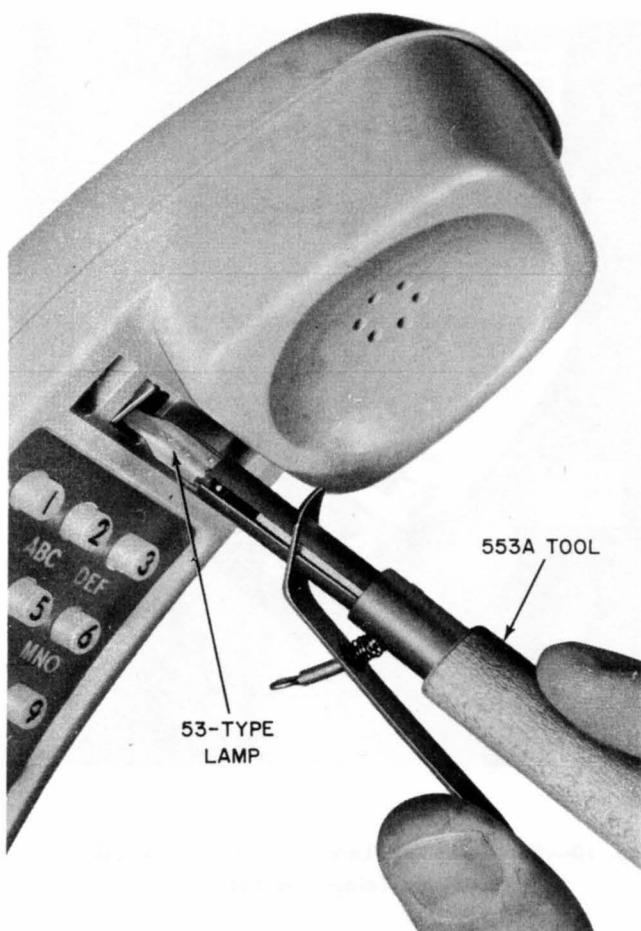

Fig. 11—Replacing Dial Lamp in Early Production 1220-Type Hand Telephone Set
5.05 To replace a dial lamp in the TRIMLINE hand telephone set, remove cover or number card retainer and light-seal plate. Current production hand telephone sets have the lamp in a horizontal position and a KS-6320 orange stick can be used to remove the lamp (Fig. 10). **EXERCISE CAUTION TO PREVENT THE LAMP FROM FLYING OUT OF THE SOCKET IN A DANGEROUS MANNER.** In early production hand telephone sets use a 553A tool to remove the lamp from its vertical position (Fig. 11).